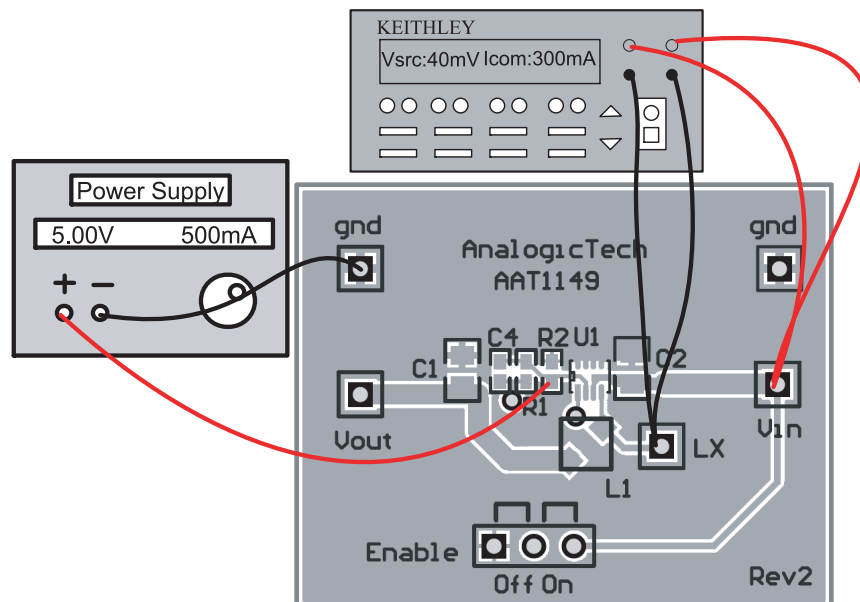

Figure 8: AAT1149 Schematic Connection Diagram for $R_{DS(ON)}$.
1. Configure the specified test equipment as shown in Figure 8.